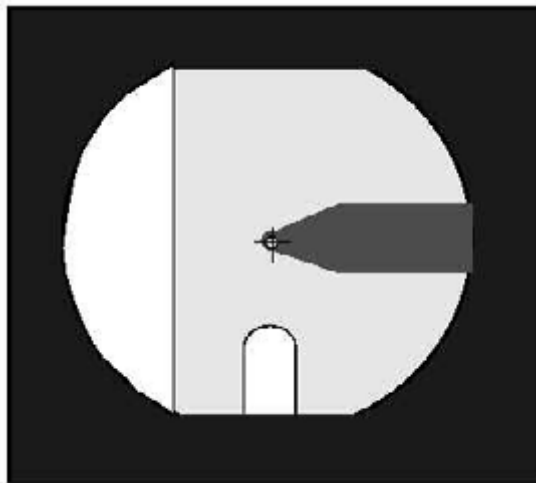

Fig. 4: Pointer
- Adjust the pointer and subsequently switch on fluoroscopy until the pointer is displayed on the monitor as shown in (Fig. 4 / p. 11).